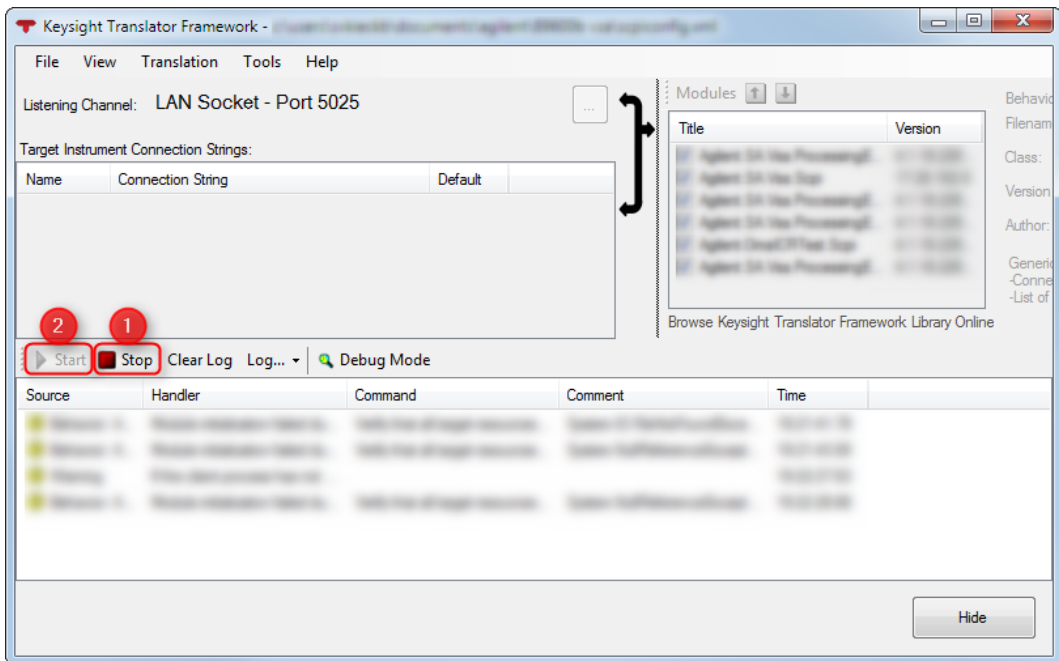

Figure 11 Keysight Translator Framework
Should the 81196A OMG software become unable to communicate with the 89601B VSA, a SCPI server restart may be required. This can be done by double-clicking the red Keysight Translator Framework icon in the system tray, then clicking the Stop button (1), followed by the Start button (2) in the Keysight Translator Framework user interface, as shown in the Figure 11 on page 60.